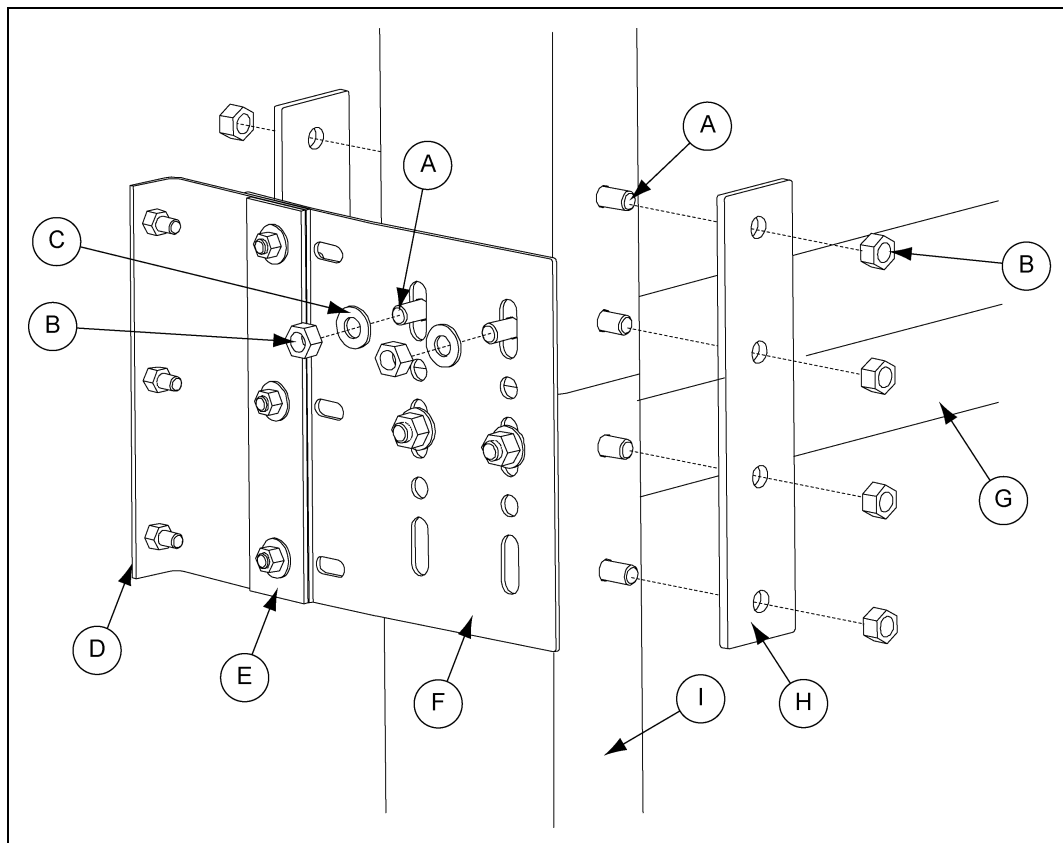

Figure 20
2. Fasten top column to lateral brackets (**STC00355**) using two (2) 1/2" x 1" bolts, washers, and hex nuts for each column. (See Figure 20.)
3. Align flange joint plates (STC00353) with holes in columns and attach using six (6) 1/2" x 1" HHCS bolts and hex nuts. **NOTE:** Bolt heads go to inside of channel. Skip top hole in bottom channel until *next step*. DO NOT fully tighten bolts.
4. Attach “H” channel braces (**STC00350**) to the inside of the columns and the flange joint plates using two (2) 1/2" x 1" HHCS bolts and hex nuts for each column. (See Figure 20.)